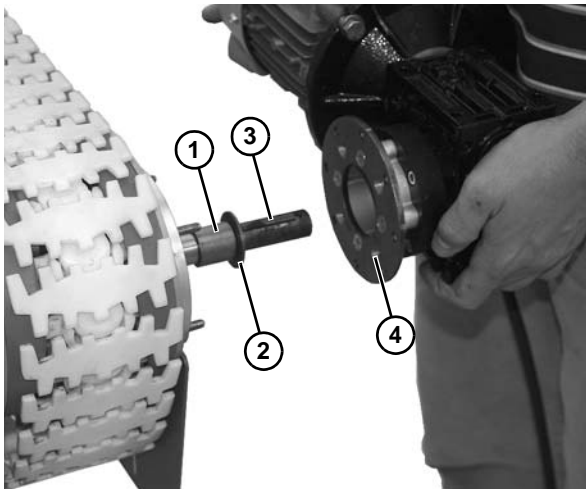

Figure 49
1. Install spacer (when applicable) (Figure 49, item 1), washer (Figure 49, item 2), and key (Figure 49, item 3) onto drive shaft.
2. Attach the motor (Figure 49, item 4) onto the drive shaft.